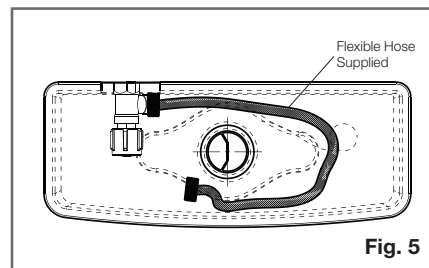

Fig. 5
- 4- Fit Cistern Stop Valve (Not supplied) to the 1/2" B.S.P. nipple in the wall using approved thread seal, in the downward angled position as detailed in **Fig. 5**. Connect one end of flexible hose to cistern stop valve.